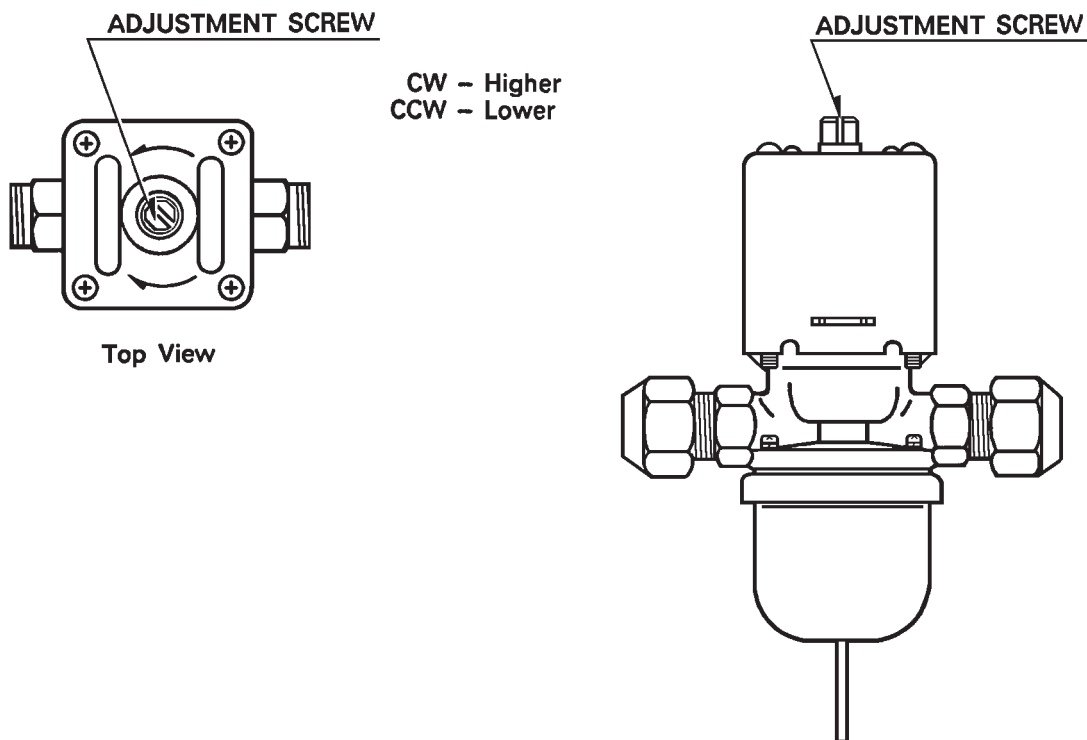

Fig. 7
- 2) Five minutes after a freeze cycle starts, confirm that the thermometer reads 104°F to 115°F (40°C to 46°C). If it does not, rotate the adjustment screw by using a flat blade screwdriver until the temperature is in the proper range. See Fig. 7. Next, check that the reference pressure is in the range indicated in the Head Pressure table. See "III. 4. PERFORMANCE DATA". If it is not in the proper range, verify the refrigerant charge.